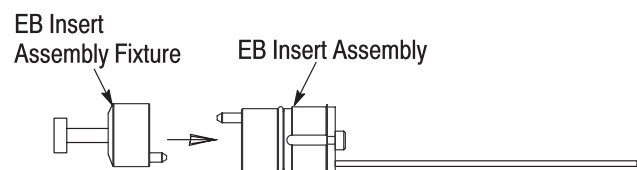

Figure 9
2. Slide the spring onto the end of the ferrule assembly. See Figure 9, Detail A.
3. Align the end of the ferrule assembly with the appropriate channel cavity of the EB insert, and insert the ferrule assembly into the channel cavity until the O-ring is against the channel cavity. See Figure 9, Detail B. To avoid damage to the fiber, DO NOT push the fiber to install the ferrule assembly.
4. Using the ferrule insertion tool, push the spring until the ferrule assembly bottoms in the channel cavity (the O-ring will be inside of the cavity, and the spring will protrude slightly from the cavity). See Figure 9, Detail B.
5. Align the index pin hole of the ferrule plate with the index pin at the back of the EB insert, and slip the fiber into the closest slotted hole in the ferrule plate. See Figure 9, Detail C.
6. Hold the ferrule plate against the EB insert, making sure that the index pin enters the index hole. Thread the screw through the screw hole of the ferrule plate and into the hole in the EB insert. See Figure 9, Detail D. Using the 2.5-mm hex wrench, tighten the screw to a torque between 0.8 and 1.0 N-m. Check to make sure that the ferrule plate is flush with the EB insert.
7. Align the guide pins with the guide holes, and fit the EB insert assembly fixture onto the EB insert assembly. Refer to Figure 9, Detail E.